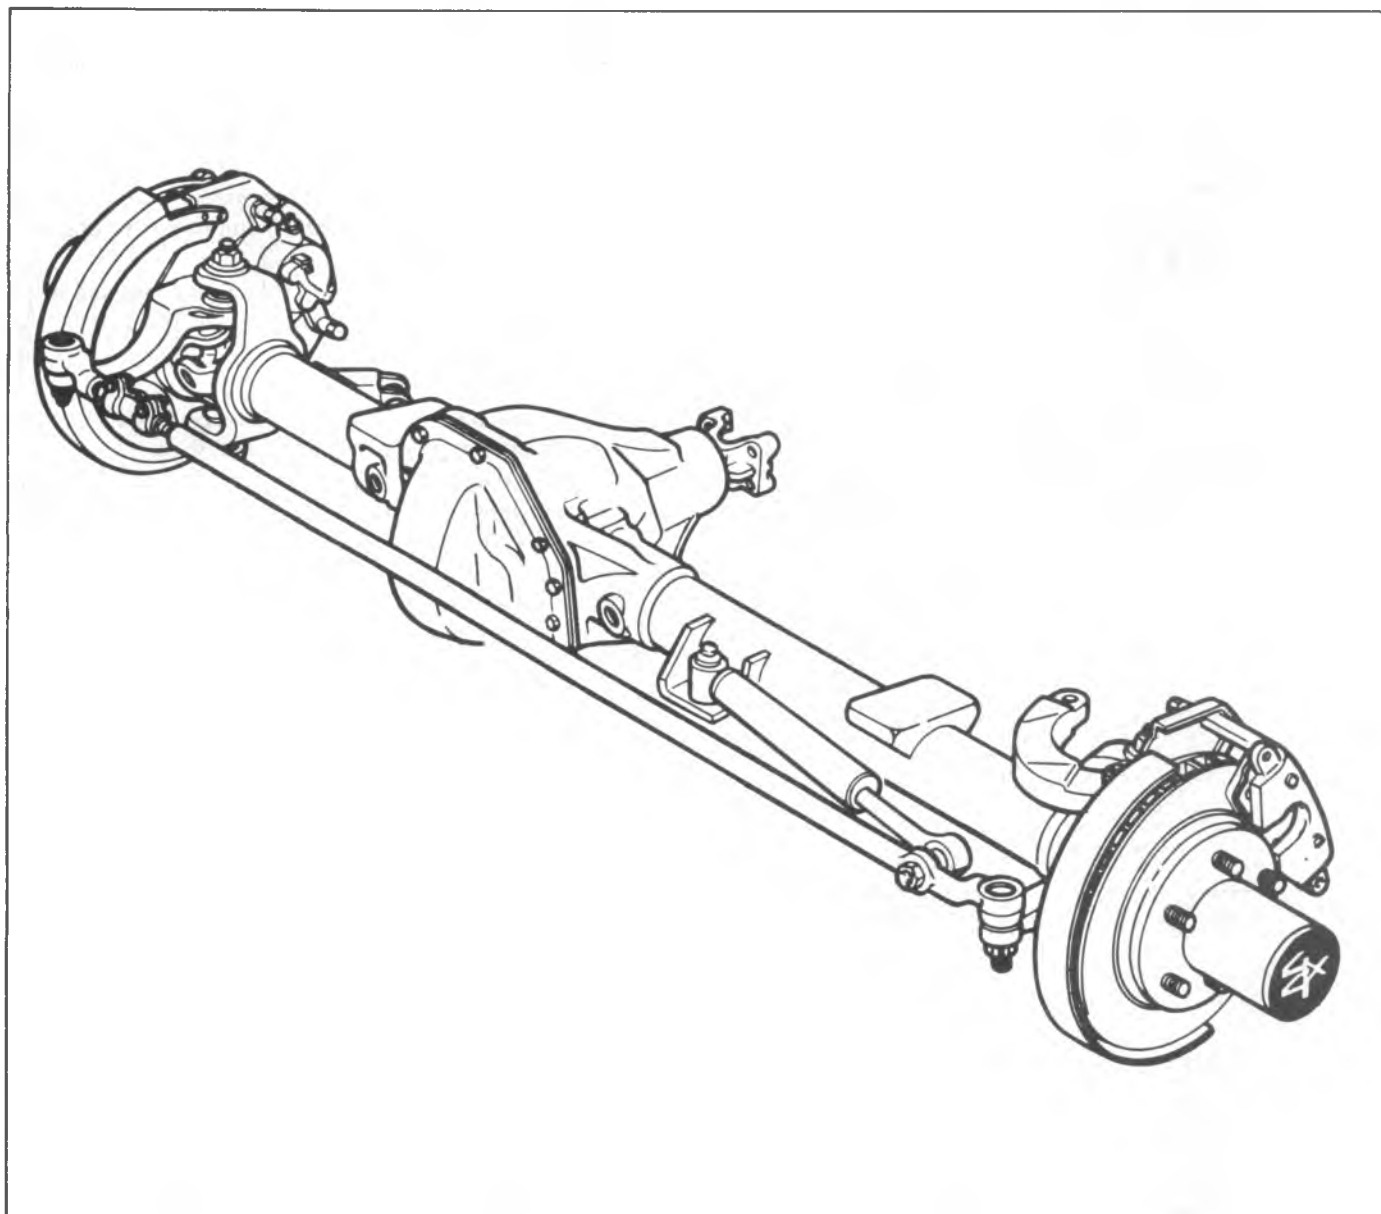

Fig. 4C-2--Front Drive Axle Typical
FRONT AXLE ASSEMBLY (Refer to Fig. 4C-2)**Removal**
6. Disconnect axle vent tube clip at the differential housing (see fig. 4C-3).